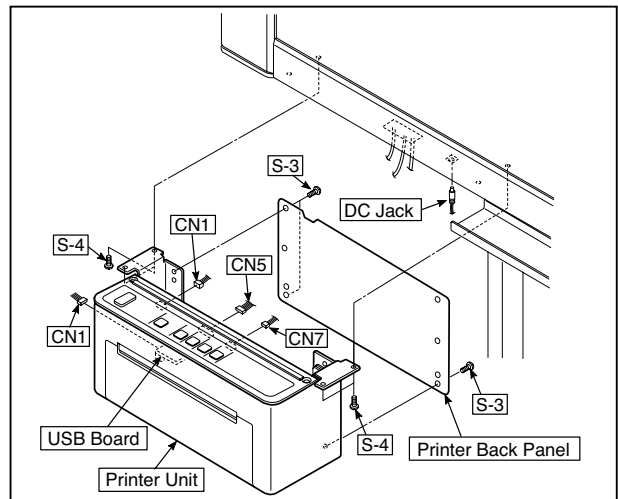

Fig.1
**1) Remove the Printer UNIT. (See Figs.1)**
- 1.Remove the "S-3" screws shown in the figure 1 and then remove the Printer Back Panel.